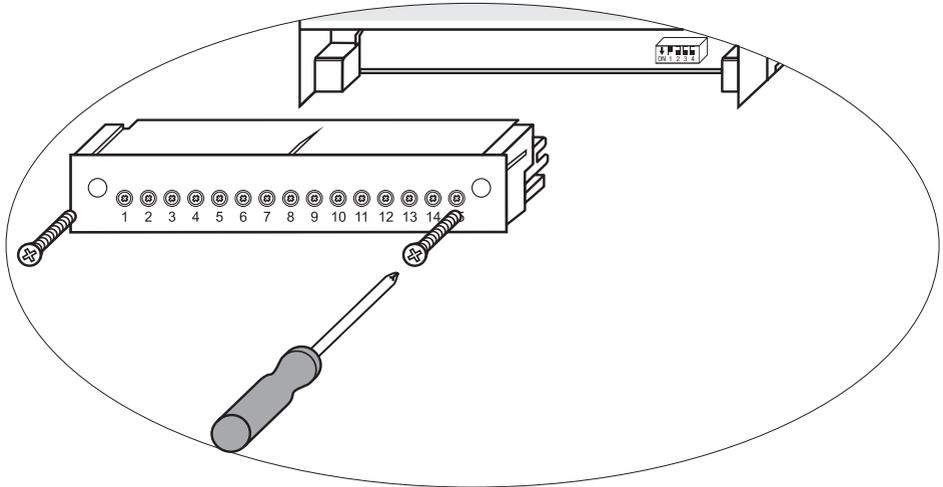

Fig. 59
- Unscrew the left and right fixing screws. See Figure 59.